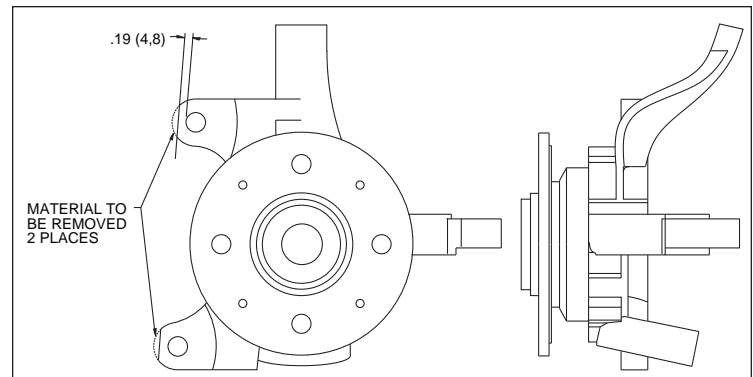

Figure 1. Spindle Modifications
• These modifications should be performed by a qualified machinist. Refer to Figure 1, right. Only one view of the spindle is shown, but the modifications need to be performed on both spindles.